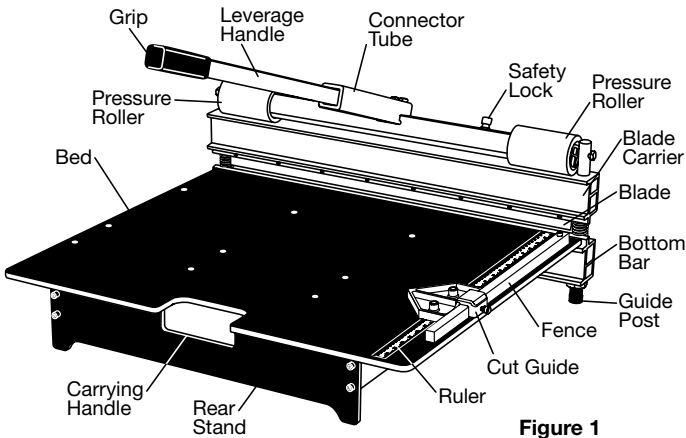

Figure 1
**CAUTION:** Tool is heavy! Users with adequate strength should move the cutter with proper lifting technique and constant awareness of the sharp blade. Be careful not to drop the machine on feet or other body parts. Carry the cutter by its carrying handle (Figure 1). Do not carry the cutter by the leverage handle, the blade carrier, or bottom bar. Keep hands away from the blade!